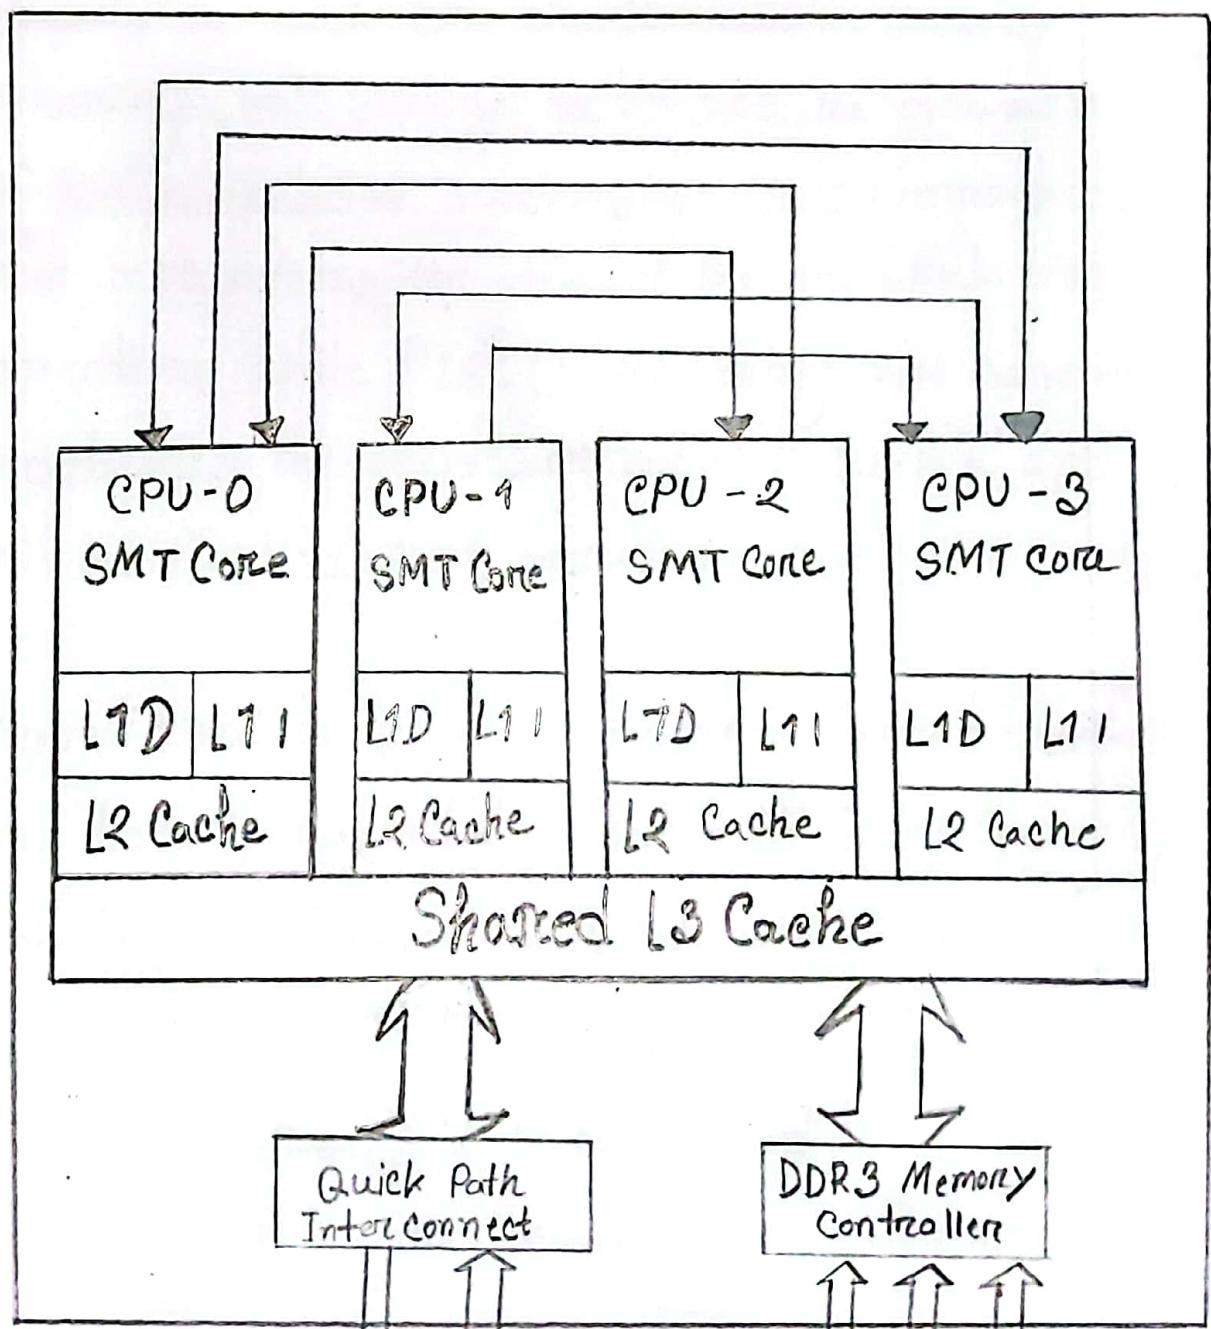

Figure 1: Block diagram Intel Core i7 Processor
is designed for mobile computers, installed in a BGA 1356. Has a built-in memory controller (2 channels, LPDDR3-2133, DDR4 - 2400) and Controller PCI Express 3.0 (12 lines). The Intel Core i7 processor is targeted towards general purpose computing. Multicore performance improvements are achieved by: (1) replicating the core execution unit, (2) adding additional processor instructions, and (3) improving the communication between the cores. Two major changes for the Core i7 architecture include the large shared L3 cache and the QuickPath interconnect bus which is used for inter-process communication between the [2]. Figure 1 provides the high-level block diagram of the Core i7 processor. To enhance the performance of multimedia and data-intensive applications, the i7-8650U incorporates Streaming SIMD Extensions (SSE), a set of instructions that facilitates the parallel processing of multiple data elements. Advanced Vector Extensions (AVX) further